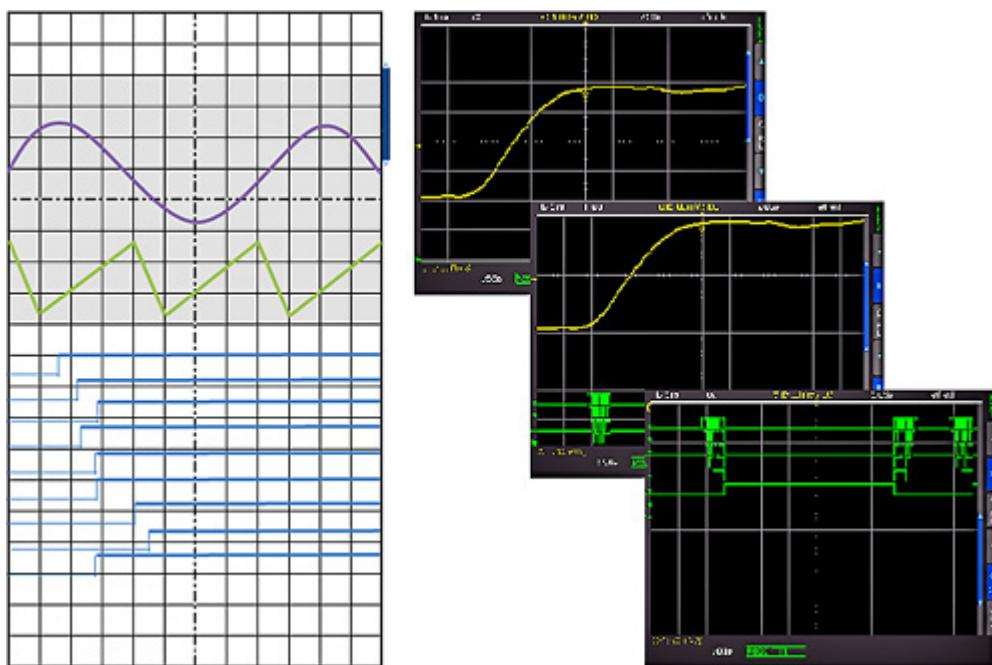

Figure 3-2: Drawing of the virtual screen area
**Figure 3-2** illustrates the functionality of the virtual screen. The scroll bar next to the grid indicates the position of the 8 visible divisions within the available 20 divisions. .